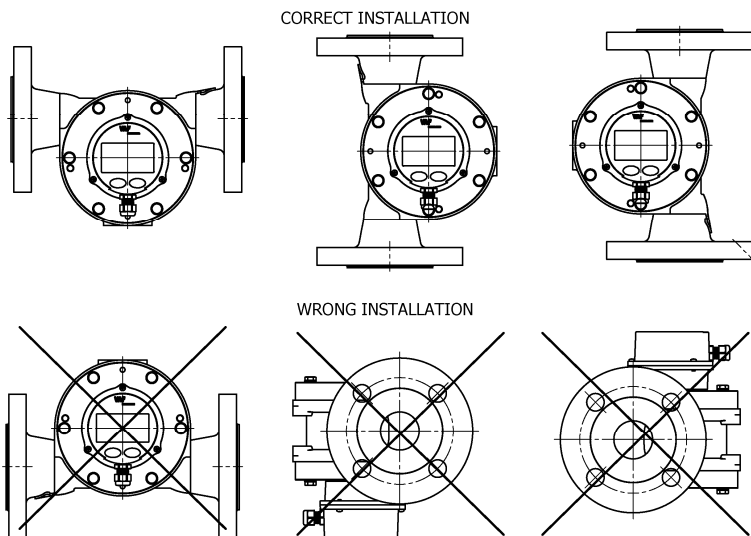

Figure 8 – Mounting position
7. Install the flowmeter in the process piping in accordance with the relevant position from Figure 8.